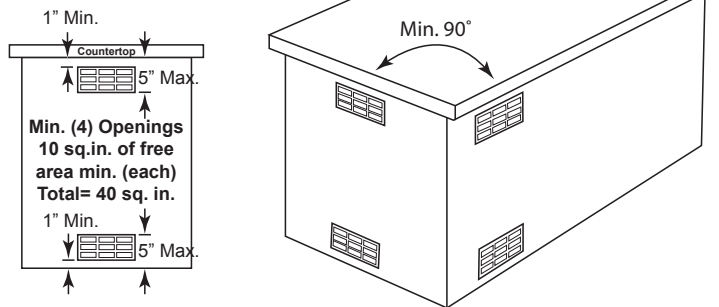

Figure 9
**One side of the enclosure shall be kept completely open to the outside OR four (4) minimum ventilation openings MUST be provided:**
- Two openings must be in the side walls of the enclosure, at the top and spaced a minimum of 90° from each other. The openings must begin 1" or less below the countertop edge and end no more than 5" below the countertop edge. See Figure 9.
- **The openings must remain unobstructed:** The clearance between the openings and any items outside of the enclosure is a minimum of 6". The clearance between the openings and any items within the enclosure is a minimum of 2". This provides free flowing air inside and outside the enclosure to keep the island cool during operation of the grill. See Figure 9.